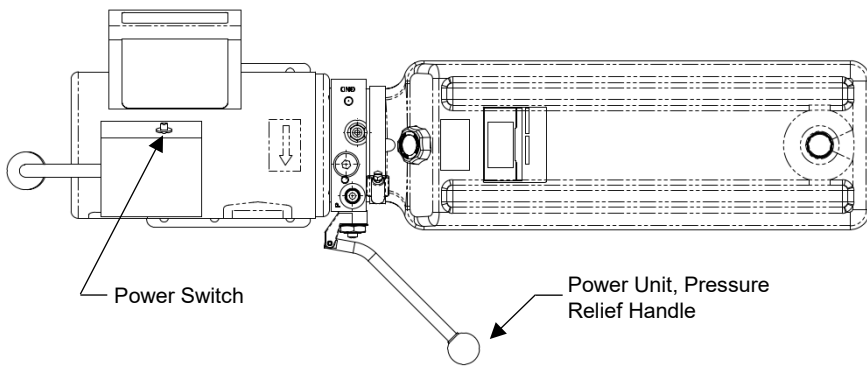

Figure 11.1 Power Unit Features
Wax the outside of the columns where the UHMW Guide Blocks will make contact to the column. The wax will reduce friction and make for smooth operation (*figures 11.1 & 11.2*). **Grease the zerk fittings** (4 on the powered runway and 2 on each crossmember).
- Stand clear – Push the power switch on the power unit (*figures 11.1 & 11.2*) to raise vehicle to desired height. When the desired height is reached, release the power button then push the hydraulic release lever on the Power Unit and lower runways until it stops, check all four latches for full engagement in the square holes on each leg.
- To lower – push the power button to raise – rotate primary lock release handle and hold – push hydraulic release lever on Power Unit to lower (*figures 11.1 & 11.2*).